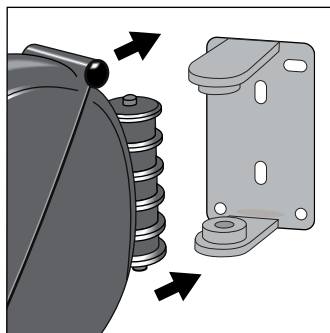

Figure 3
5. Snap dispenser into mounting bracket. (See Figure 3)
3. Snap dispenser into mounting bracket. (See Figure 3)